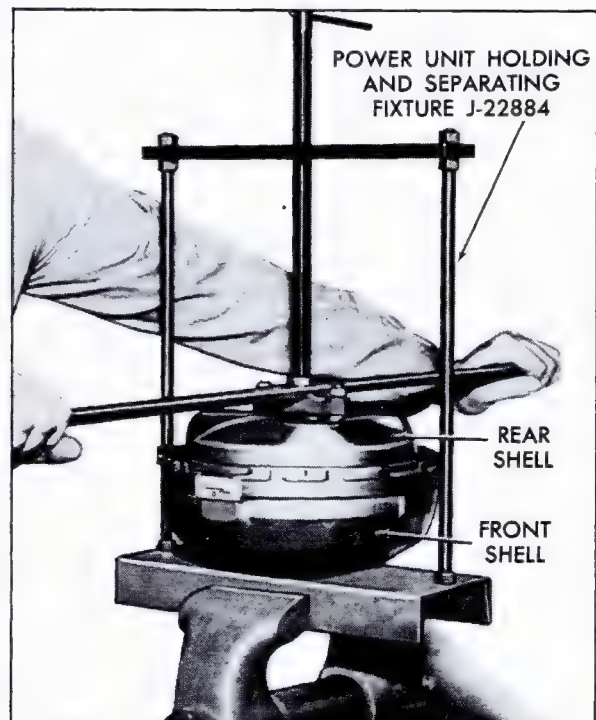

Fig. 5-34 Removing Rear Shell - Tandem Diaphragm
3. Secure Power Unit Shell Holding and Separating Fixture, J-22884, and power head, as shown in Fig. 5-34. Studs on rear shell engage base of fixture and studs on front shell engage bar of tool with bar bearing against front shell. Secure front shell to bar with two master cylinder lock nuts.